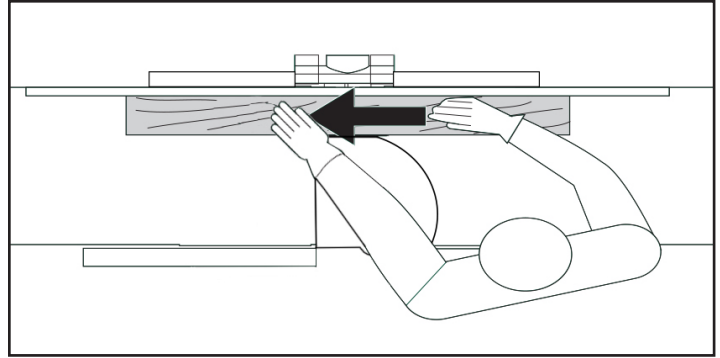

FIG. 19
Place the workpiece on top of the right, infeed table. The workpiece will be cut on its underside by the rotating cutterhead knives. When jointing, the feeding direction of the workpiece is right-to-left over the cutterhead. FIG. 19.
1. Assume the proper operating position: stand to the side of the infeed table with feet apart for stability through the whole cutting process. FIG. 19.